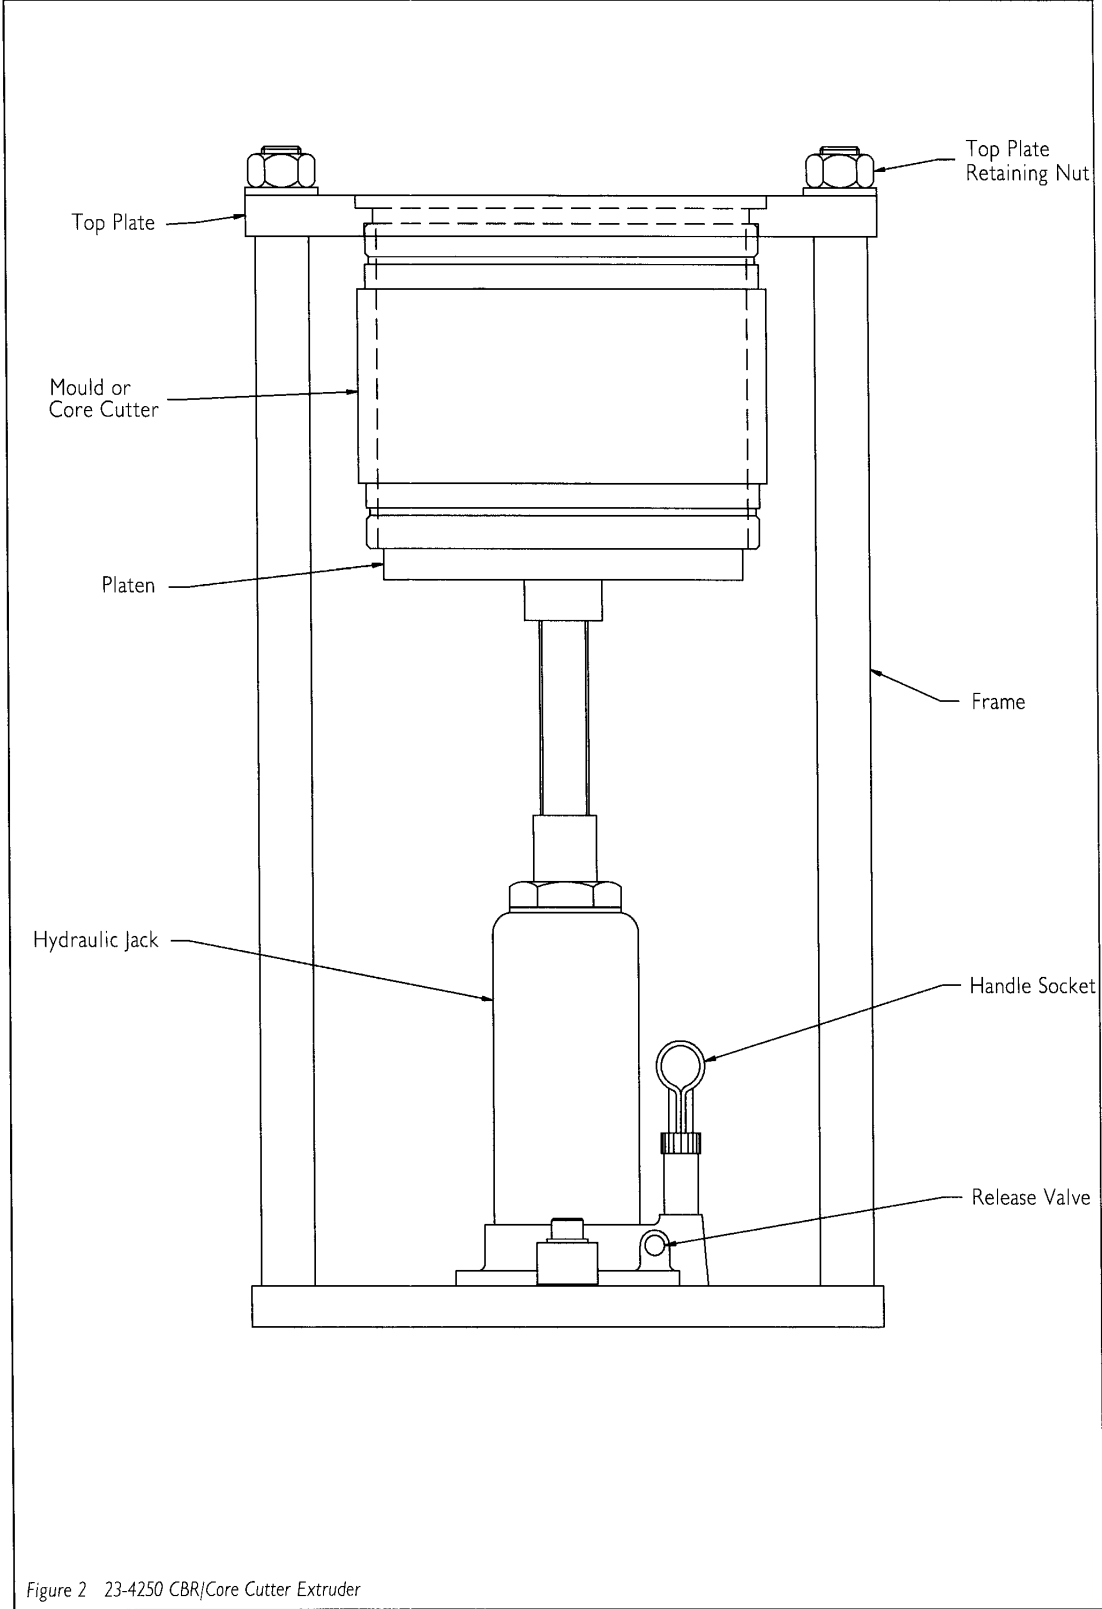

Figure 2 23-4250 CBR/Core Cutter Extruder
**The CBR Core Cutter Extruder 23-4250 (Figure 2)** will extrude samples from the following ELE 150 mm (6") nominal moulds and core cutters: